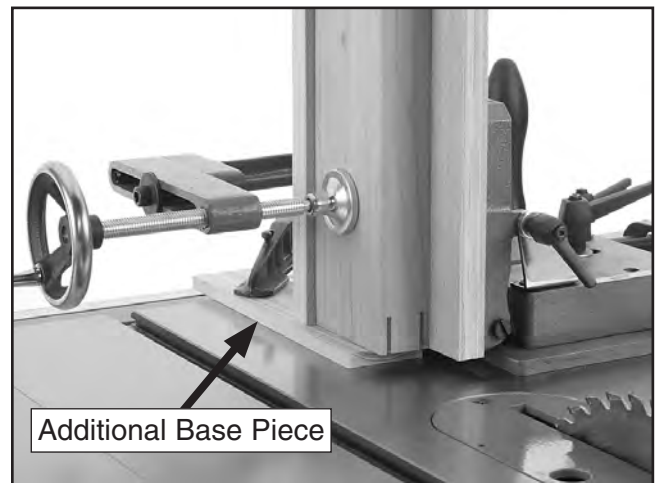

Figure 20. Example of additional base piece clamped to the saw table.
3. Plane a piece of wood approximately $\frac{3}{8}$ " thick to match the base plate of the jig, then clamp it to the front of the table and even with the right side of the jig base plate, as shown in **Figure 20**.